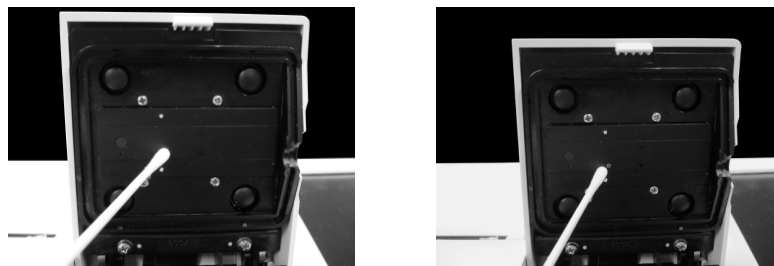

Fig. 8-47 Clean Optical Channels
2. Clean the optical channels using a cotton swab or lint-free cloth dipped in alcohol (Fig. 8-47).